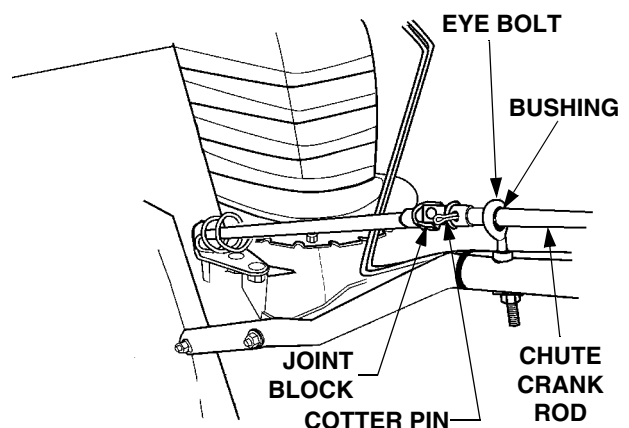

Figure 5
4. After making sure the chute crank rod is routed through the eye bolt, insert the rod (E) into the sleeve of the joint block on the chute crank assembly (F). Align the holes and secure the rod with the cotter pin (4). See Figure 5.